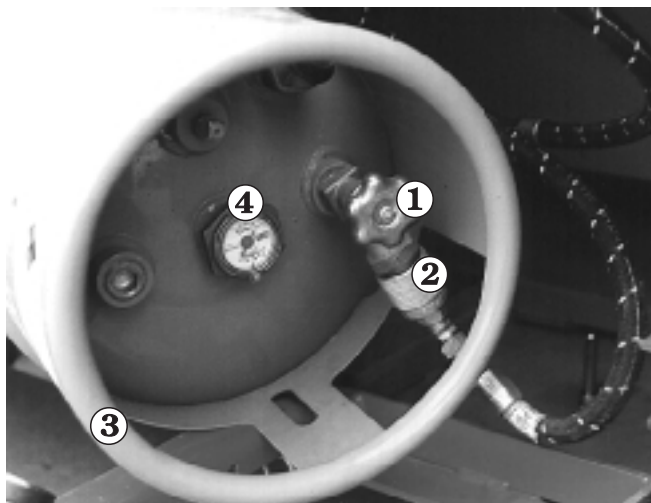

Figure 7.2 - LPG Fuel Tank Replacement
To check the fuel read the fuel meter ④ on top (see Figure 7.2).
Close the valve ① (see Figure 7.2). Manually disconnect the fuel hose at the knurled ring ②. Manually lift the tank ③ out.